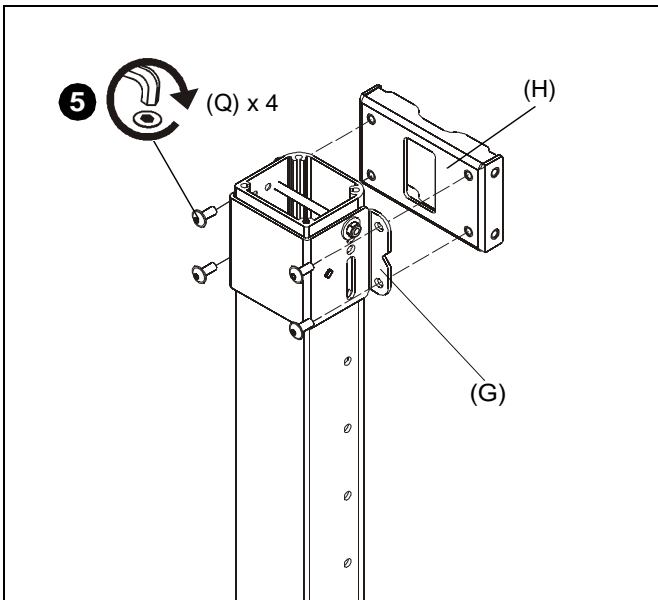

Figure 4
- Use four 5/16-18 x 3/4" button head flange screws (Q) to secure each attached clamp bracket (G) to a quick connect base (H). (See Figure 4)